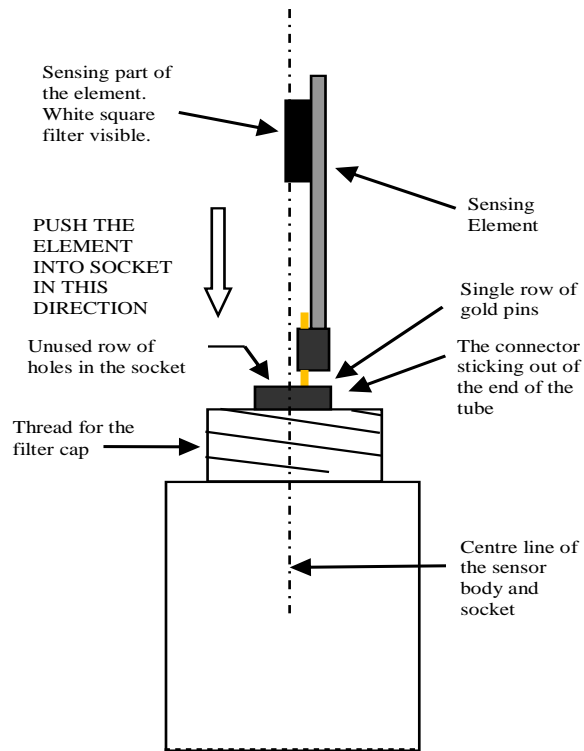

Figure 9a. Correct fit of the 4-pin sensor element (side view)
The replacement sensor element has a single row of 4 pins which mates into one side of an eight-way socket at the end of the probe. The element can be mounted into either side of the connector but the orientation of the sensor in relation to the pins is critical. Please refer to Figure 9a.
7. Unpack the replacement element, avoiding static discharges to the element by making sure you touch the packaging before the element. The element can be inserted into either row of four holes in the socket, but it must be orientated so the sensing element with the white cover, is facing into the centre line of the socket, towards the empty row of holes (see Figure 9a below).